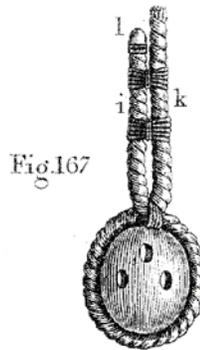

Fig. 167
"Near the end of each pair of shrouds, a dead-eye is turned in, with a throat-seizing, (see p. 9): left-handed, if **cable-laid**, **right-handed, if hawser-laid**. In the latter case, the ends of the shrouds will lie forwards, on the larboard side, and aft, on the starboard side. Fig. 167 represents a dead-eye on the starboard side, and the inner side of the deadeye. The end part of the shroud (i) is stopped to the standing part (k), by two round seizings (see p. 9): the end is whipped, and a piece of canvas, tarred, is put over it, called a cap (1)."